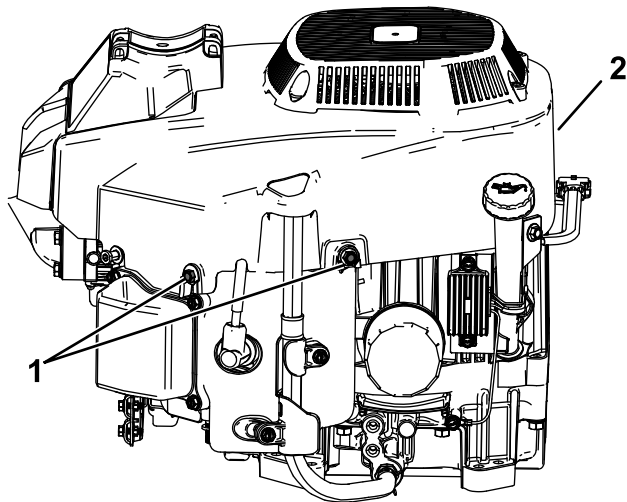

Figure 40
2. Clevis pin (2)
3. Hairpin cotter (2)
4. Loosen the bolts and remove the fan housing (Figure 40).